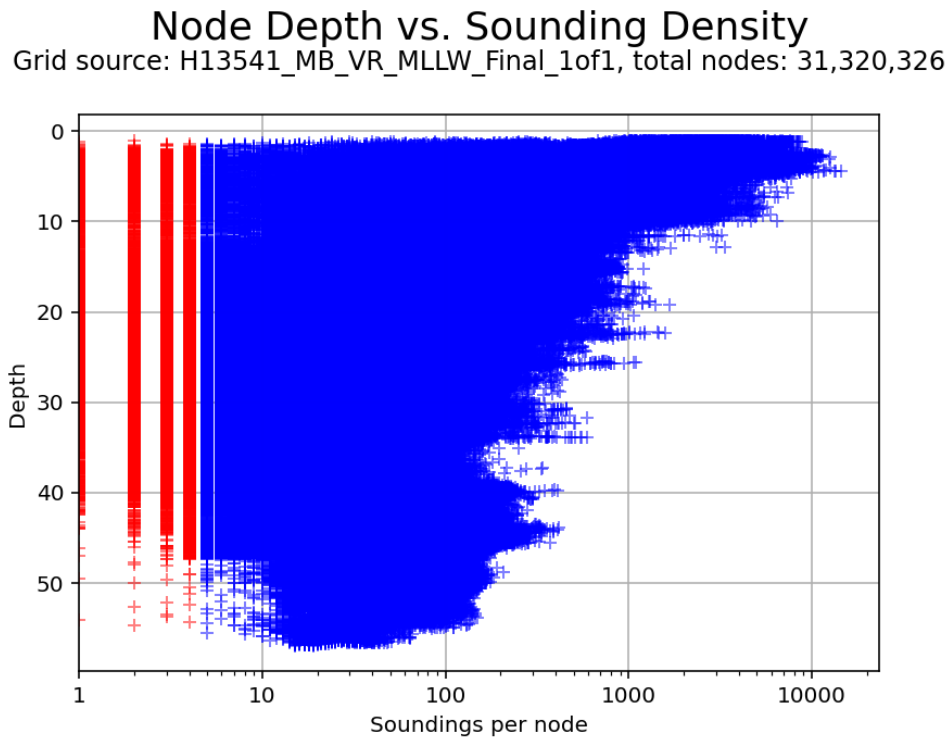

Fig. 2.31: A plot of every node represented in the surface in plotted as its depth on the y axis and its density on the x axis.
- Node Depth vs. Sounding Density (Fig. 2.31).